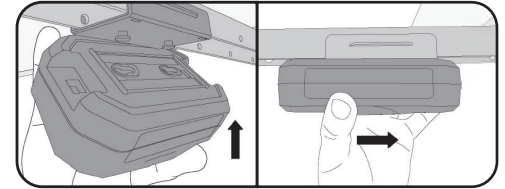

fig 3.4
4. Align the pins with the holes on the back for the Power Adapter. Press the Power Adapter onto the pins and slide to lock it into place. (fig 3.4)